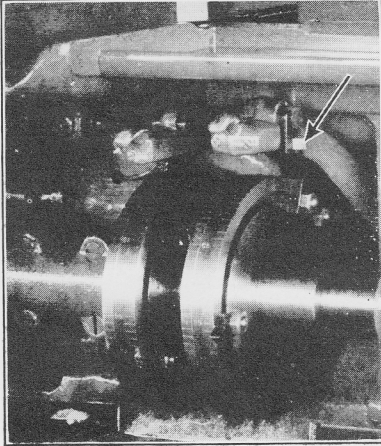

Fig. 5. Turret trip lever dog
**Trip the Feeding Mechanism Trip Lever.** See Figs. 5 and 7, Booklet No. 1. Use your finger.
Tip the dog over on its side so that it cannot be tripped by the dogs in the carrier. Fig. 5.
**Remove Driving Shaft Handwheel and Drop Guard.** See Fig. 5, Booklet No. 1.